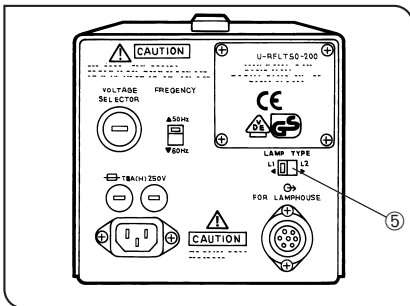

Fig. 19
5. Set the burner type switch ⑤ on the rear of the power supply unit according to the type of the mounted burner (L1 or L2). (Fig. 19)